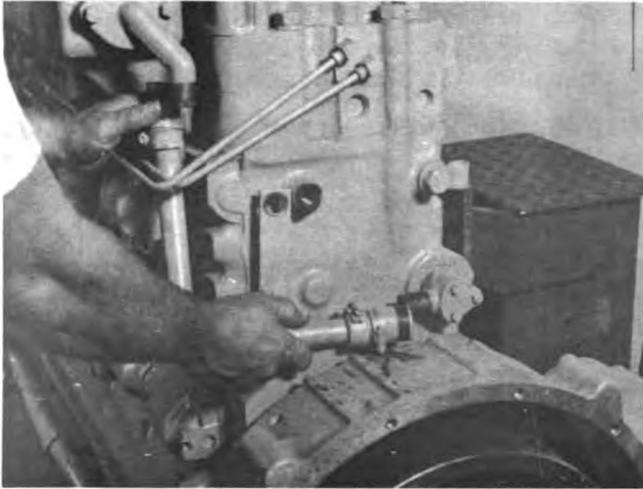

Fig. 0-21. Remove The Tube From The Rear Of The Aftercooler.
2. Loosen the clamps and remove the water crossover tube from the rear of the aftercooler, Fig. 0-21.